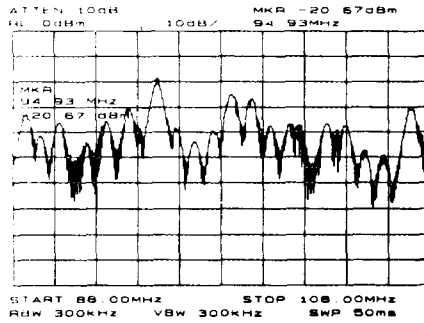

Fig.2.5. Marker placed on a signal to be demodulated.
2. Press **DEMOD** to view the menu of demodulation functions. Activate a marker by pressing the softkey **PEAK SEARCH** to place a marker on the highest-amplitude signal or by pressing **MARKER NORMAL** to move the marker to a signal of interest (see Figure 2.5). Press the **AM DEMOD** or **FM DEMOD** softkey for the desired demodulation (**FM DEMOD** for this example) and to hear the audio information. Adjust the volume using the keys in the upper right-hand corner of the analyzer.